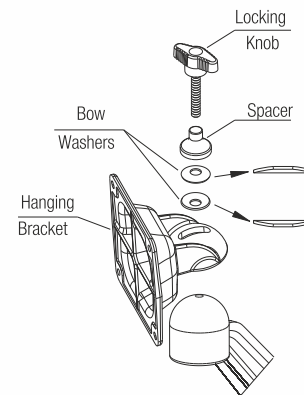

Fig. 3
3. Assemble the other parts as shown in Fig. 3.